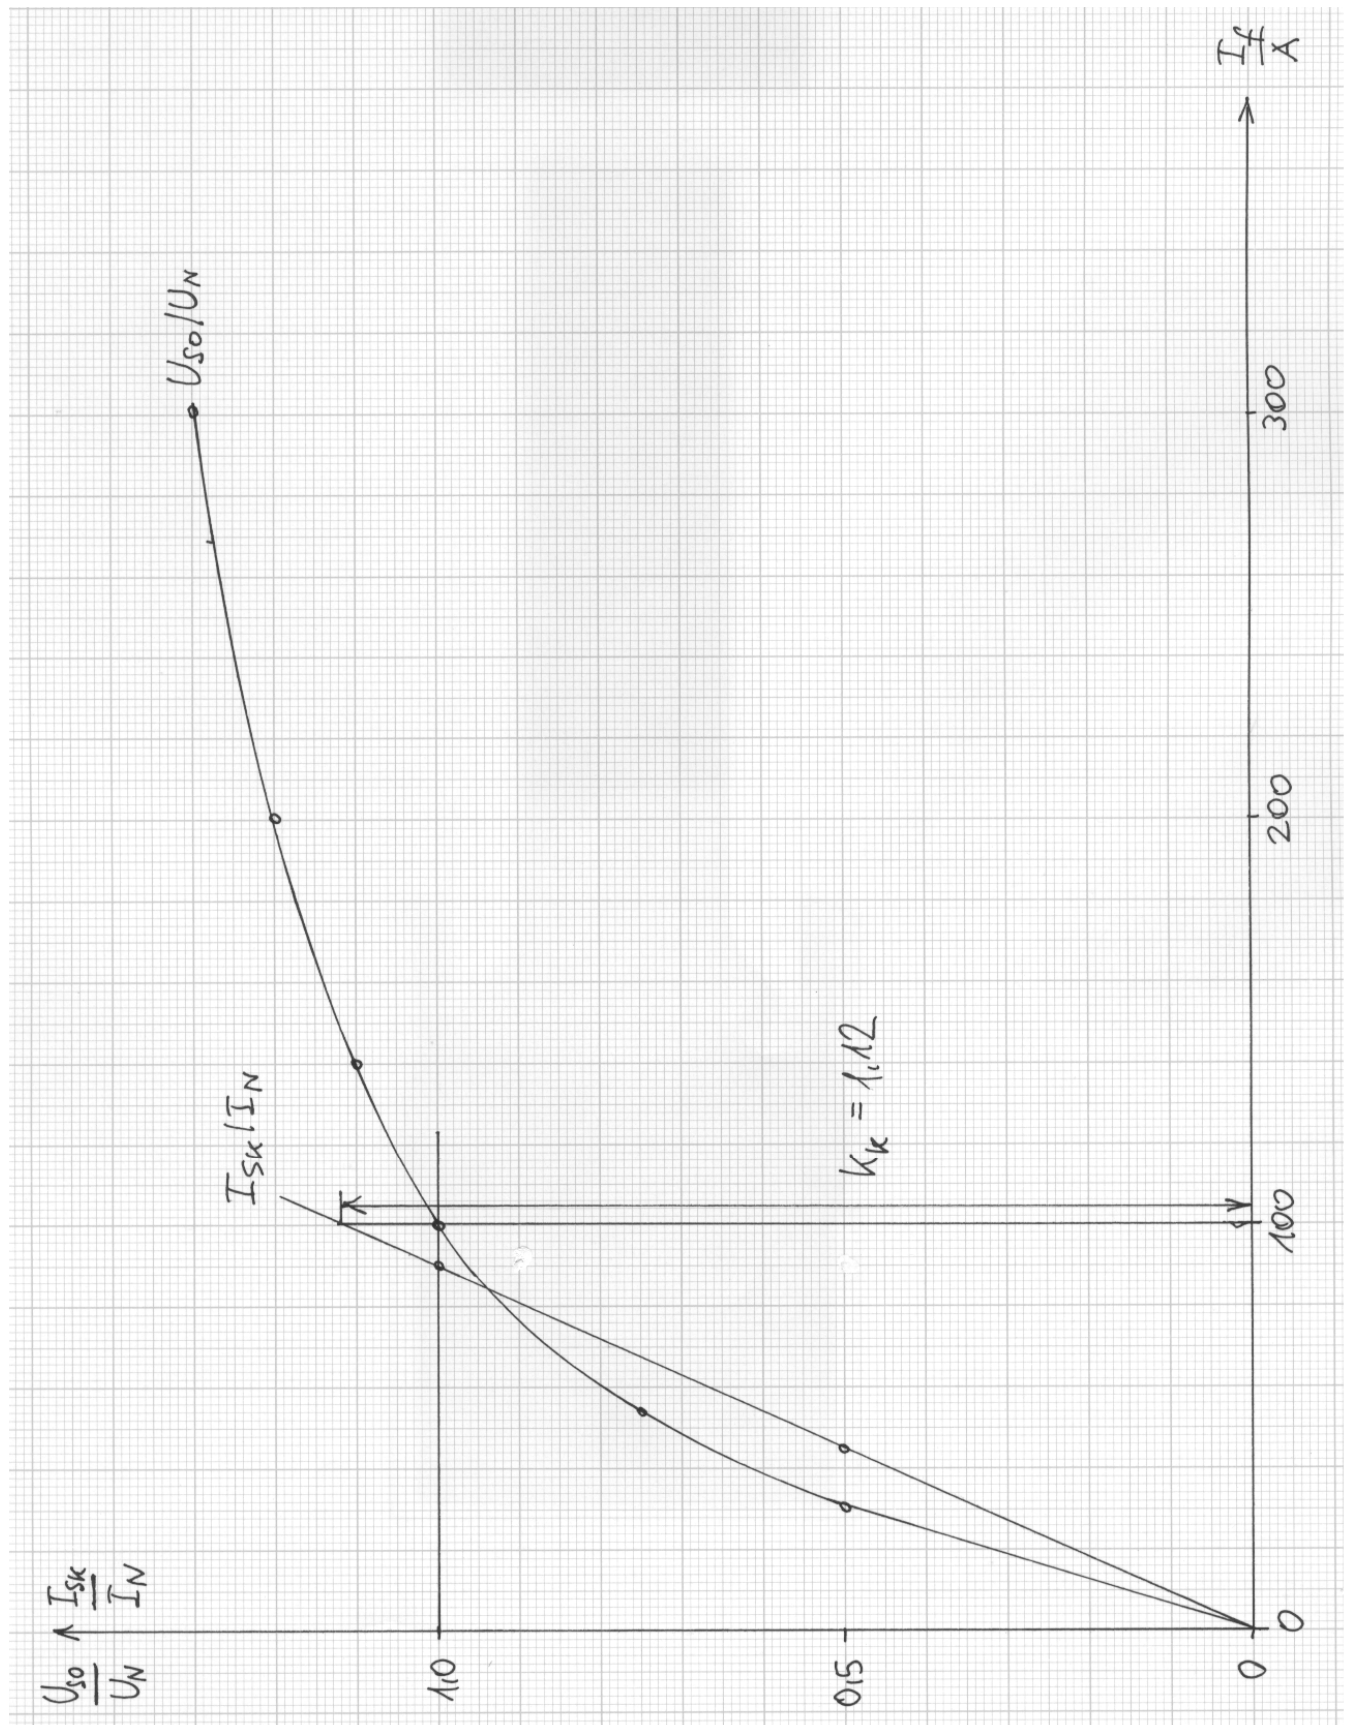

Fig. 3.2-3: No-load and short-circuit characteristic of industrial generator
- 1) No-load and short-circuit characteristic drawn in Fig. 3.2-3. From there we get: